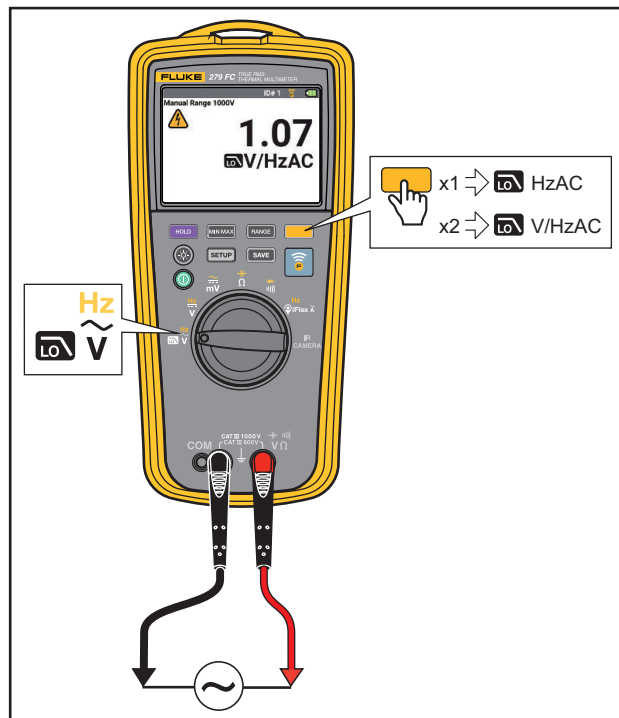

Figure 6. Volt/Hertz Ratio
- Volts/Hertz Ratio. See Figure 6.
The Multimeter can show the ratio of volts to frequency of the ac signal. See Figure 6.